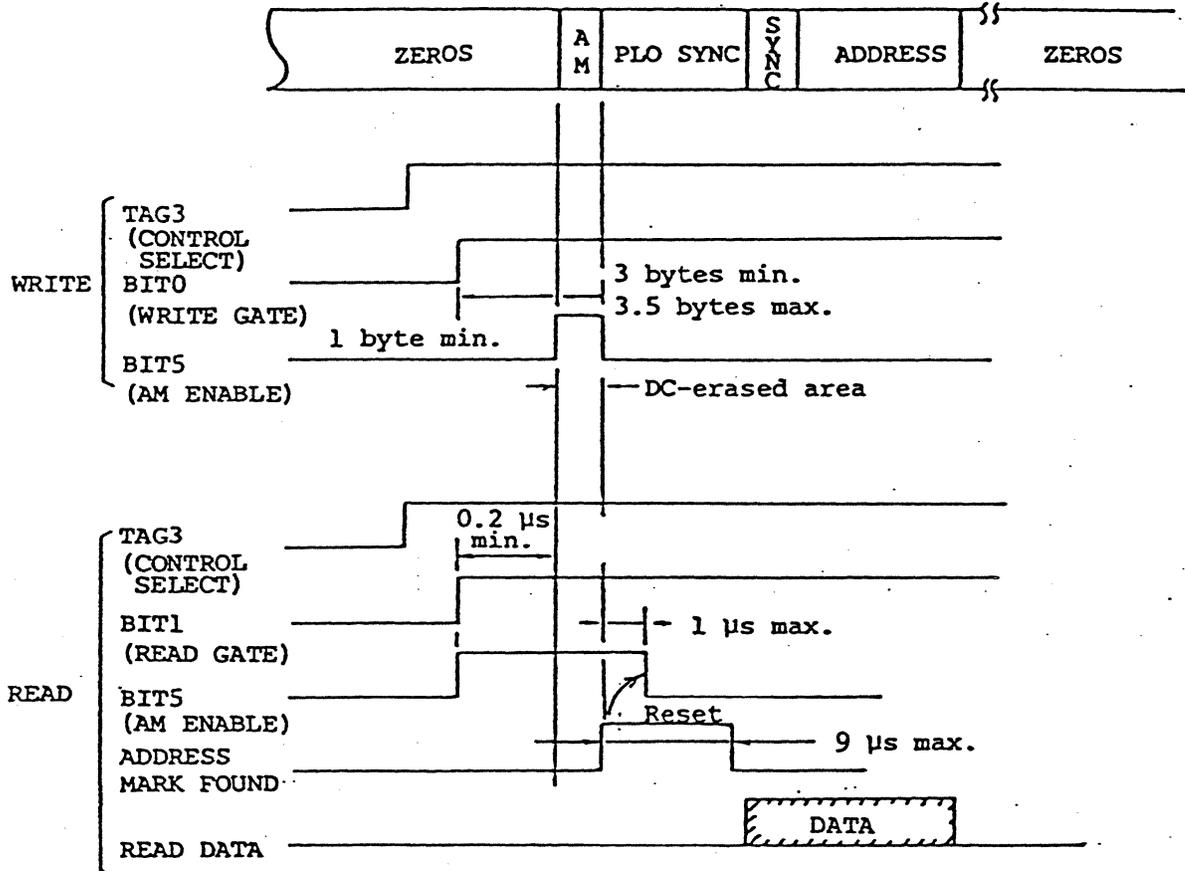

Figure 4-15 ADDRESS MARK Timing
(6) AM ENABLE = BIT5
The AM ENABLE command is used only with variable sector formats; it allows the controller to write and to find record boundaries on the disk. When AM ENABLE is asserted with WRITE GATE, the drive erases the data, thereby writing an address mark (AM). When AM ENABLE is asserted with READ GATE, the drive searches for three bytes of DC-erased data; when found, it asserts ADDRESS MARK FOUND. Figure 4-15 shows ADDRESS MARK timing.